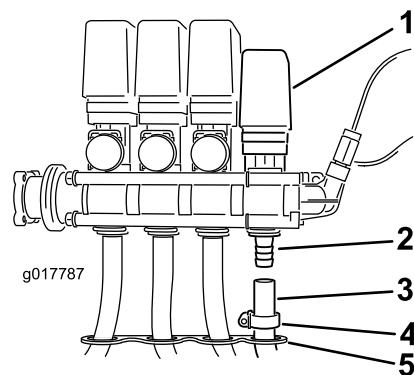

Figure 13
8. Insert the hose through the open hole in the hose loom on the valve mount bracket and up to the open barb on the hose reel valve (Figure 13).